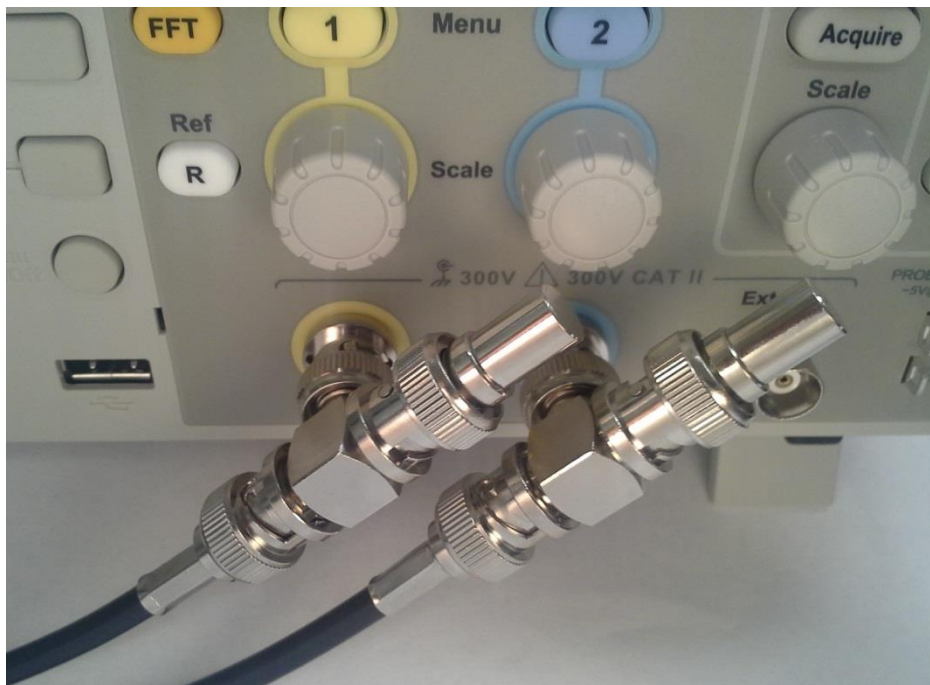

Figure 8.13. Photo of the attachment of impedance matched loads to oscilloscope inputs.
The Tektronix 1152B oscilloscope has an input impedance of $1\text{ M}\Omega$ in parallel with 20 pF . This is very far from an impedance match to a coaxial cable, and would result in very large reflections of signals if we just plug a coaxial cable directly into the oscilloscope. That is not what we want for RF measurements. In order to provide an impedance-matched load at the oscilloscope input, for most of this experiment we'll place a $50\ \Omega$ BNC terminator and a BNC tee at each input as shown in Figure 8.13. This puts the $50\ \Omega$ terminator impedance in parallel with the oscilloscope
2. Place a BNC tee and $50\ \Omega$ terminator on the inputs to both channel 1 and channel 2 of your oscilloscope, as shown in Figure 8.13. Leave them there throughout this experiment unless otherwise instructed. The purpose of these terminators is to impedance match the input cables to the oscilloscope inputs, *i.e.* to suppress reflections of signals from the oscilloscope inputs. You will connect signals to the oscilloscope inputs by connecting your cables to the BNC connector opposite the termination, as shown in Figure 8.13.